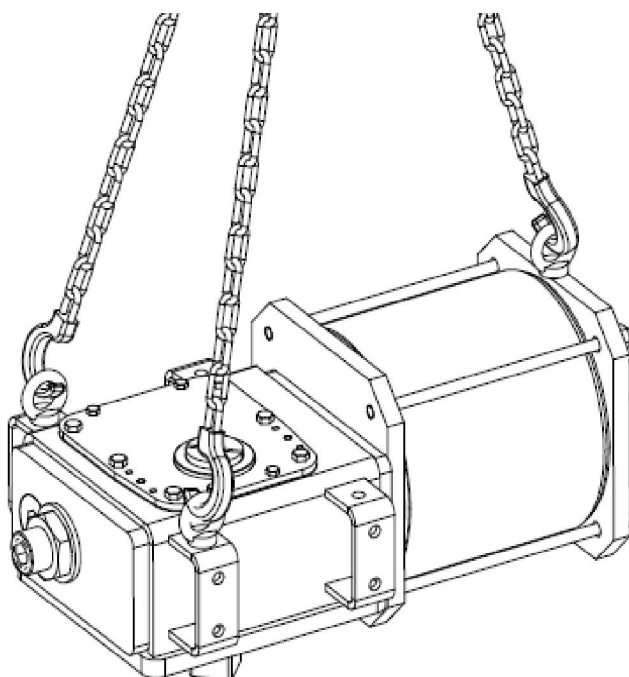

Fig. 2 – Lifting points for RTC/RTCS actuator series
Warning: Lift the actuator as shown in Fig.2.
- Conditions in which the machinery meets the requirement of stability during use, transportation, assembly, dismantling when out of service, testing or foreseeable breakdowns, are shown in Fig.2.